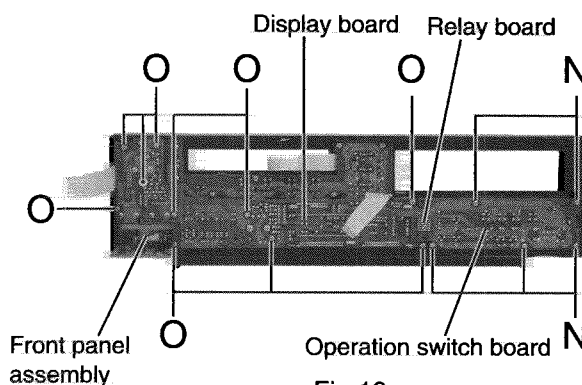

Fig.19
■ Removing the operation switch board / the display board (See Fig.19 and 20)